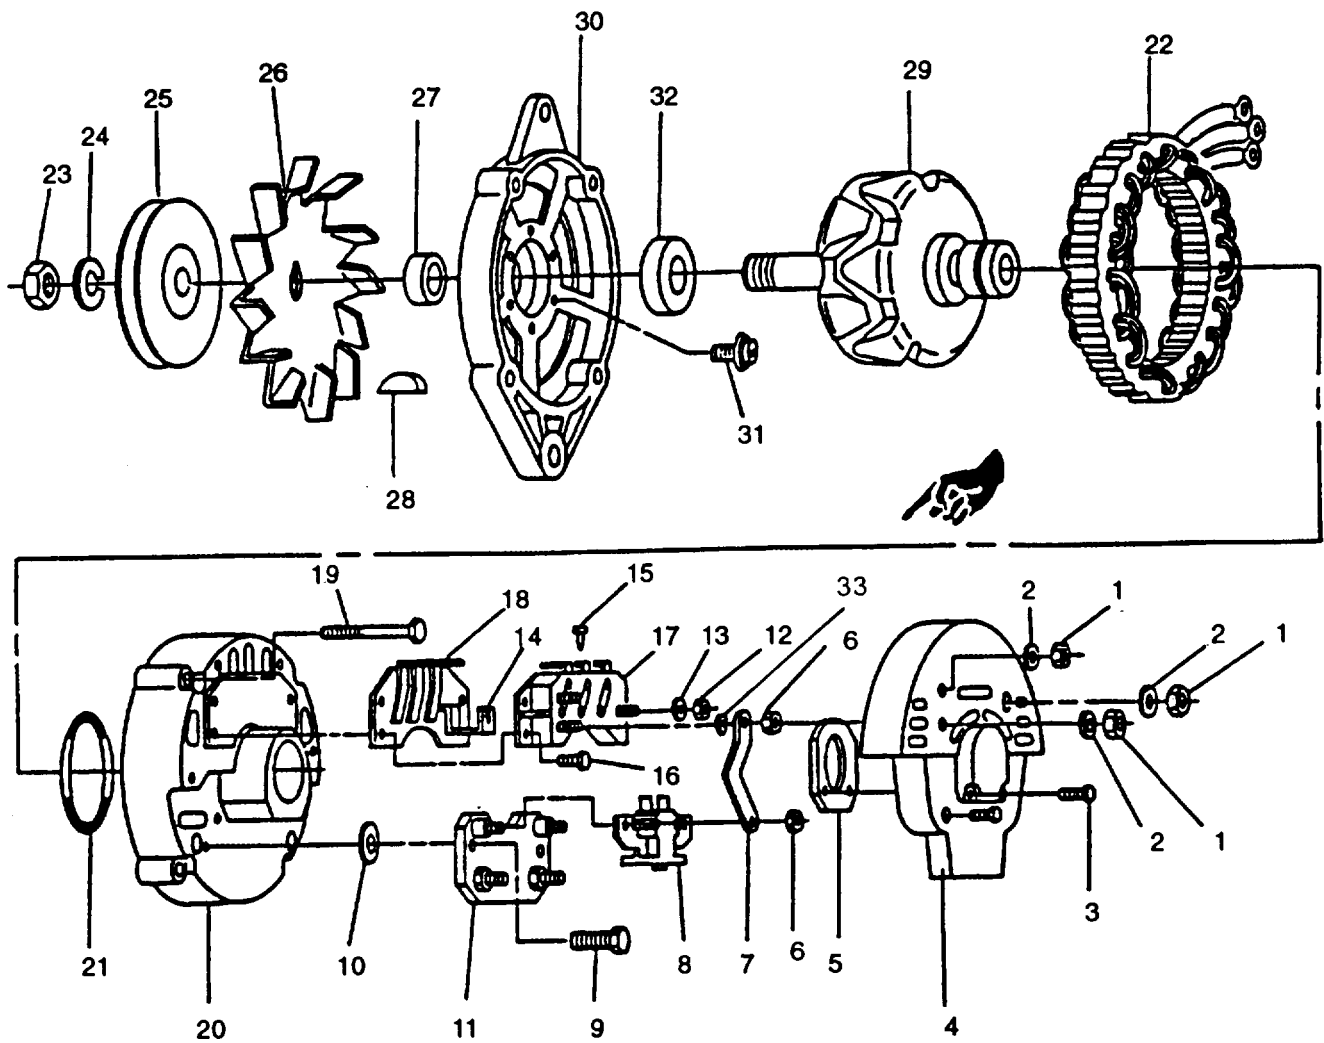

FIGURE 3-6. Battery Charging Alternator Assembly
- a. Remove terminal nuts (1, FIGURE 3-6), washers (2), bolts (3), back cover (4), and gasket (5) from rear housing (20)
- b. Remove nuts (6), washers (33), strap (7), and brush assembly (8) from voltage regulator (11).
- c. Remove bolts (9), insulating washers (10), and voltage regulator (11) from rear housing (20).
- d. Remove nut (12) and washer (13) and straighten strap (14).
- e. Remove screws (15). Tag and remove stator (22) leads from diode-trio (17).
- h. Pry units apart and remove rear housing (20, FIGURE 3-6) and stator (22) from front housing (30).
- a. Using press, install front bearing (32, FIGURE 3-6) in front housing (30).